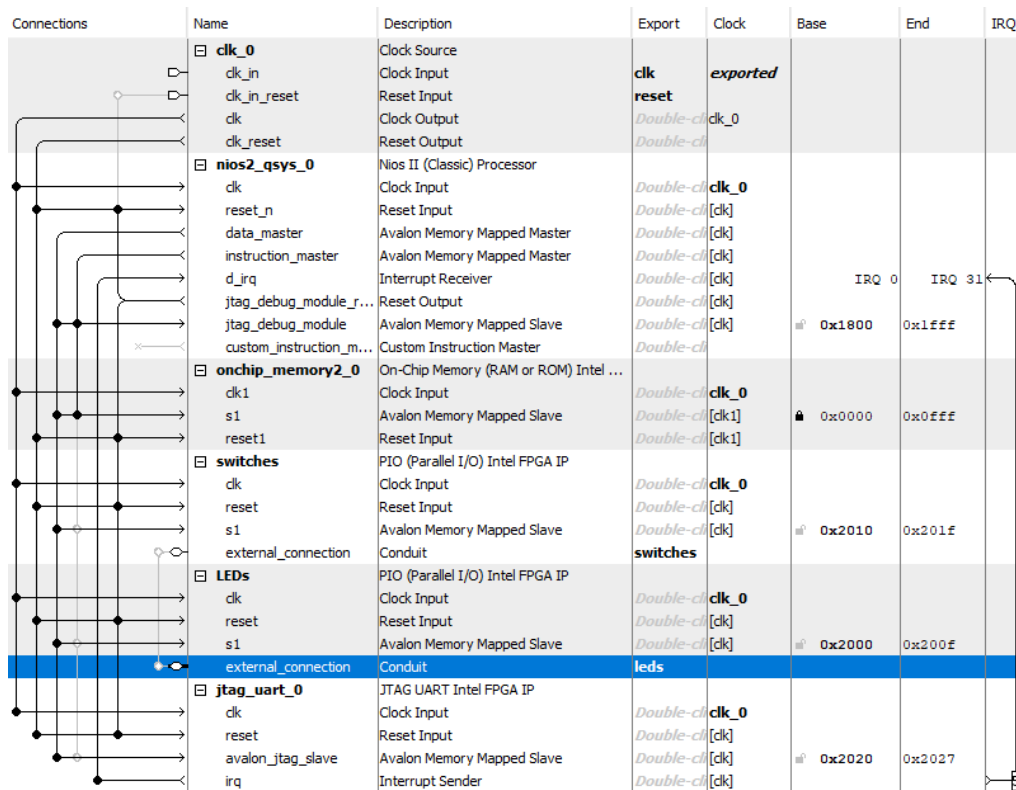

Figure 18. The complete system.
- So far, we have specified all connections inside our *nios\_system* circuit. It is also necessary to specify connections to external components, which are switches and LEDs in our case. To accomplish this, double click on Double-click to export (in the Export column of the System Contents tab) for *external\_connection* of the switches PIO, and type the name *switches*. Similarly, establish the external connection for the lights, called *leds*. This completes the specification of our *nios\_system*, which is depicted in Figure 18.